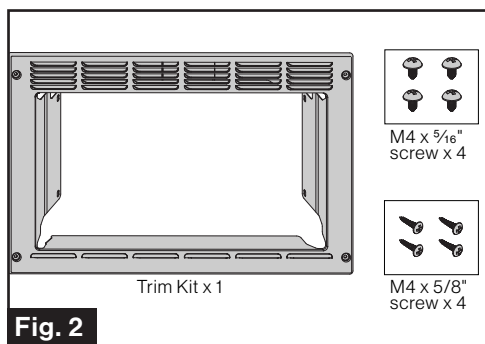

Fig. 2
1. Take out the microwave oven and the component(s) from box and put on a flat surface. (Fig. 2)